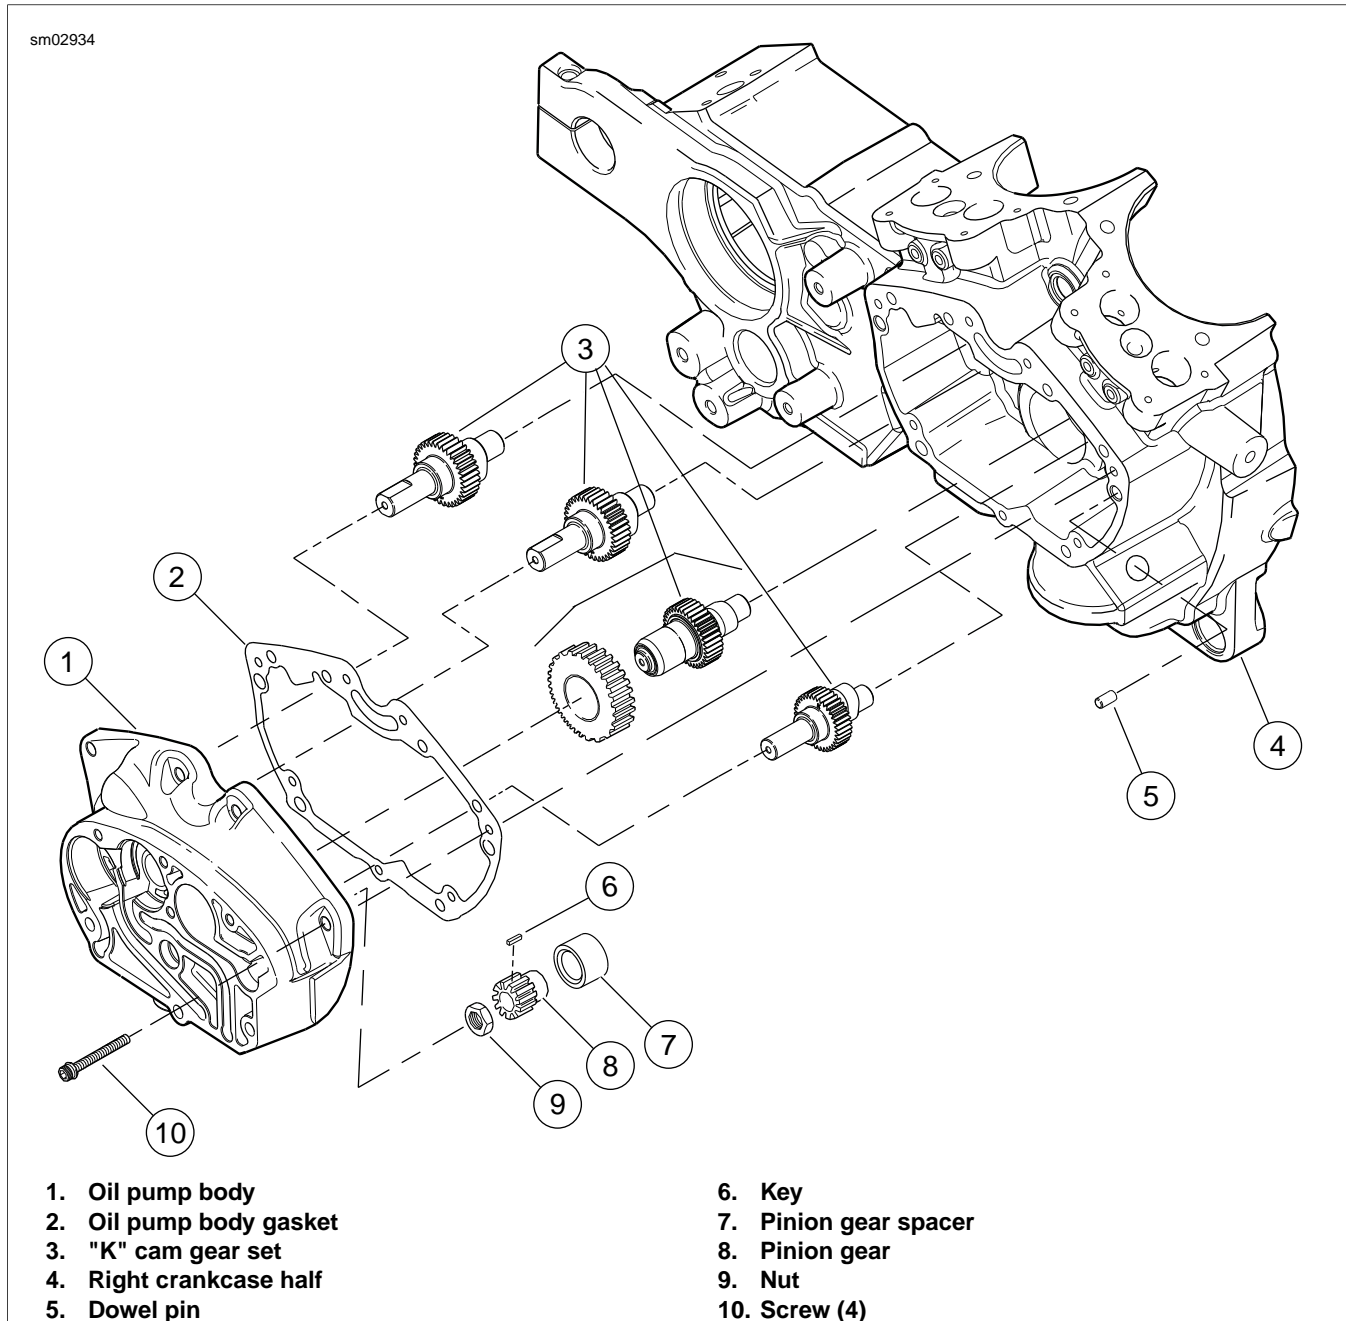

Figure 3-109. Oil Pump Body and Cam Assembly
9. See Figure 3-109. Remove pinion nut (9). Slide pinion gear (8) and pinion gear spacer (7) off pinion shaft.
2. See Figure 3-109. Install pinion nut (6).
3. See Figure 3-109. Liberally apply engine oil to bores, shafts, and gears. Install all cam gears into bores of right crankcase half. Make sure to properly align timing marks (7, 8) of cam gears and pinion gear. See Figure 3-109.
- 4. See Figure 3-109. Install a **new** oil pump body gasket (2) on crankcase.